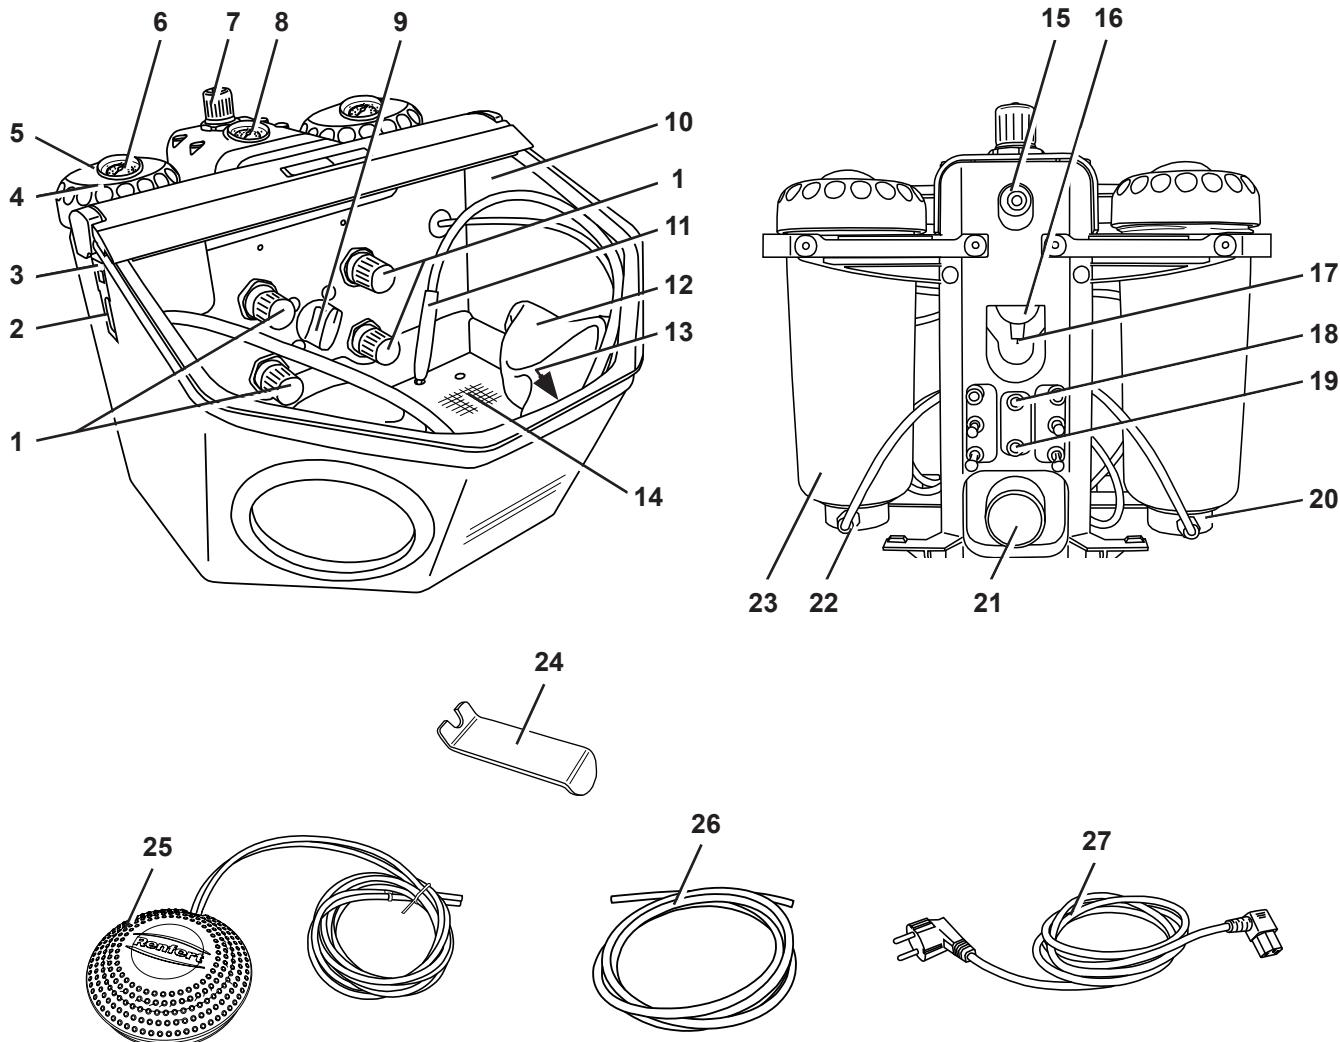

Fig. 1
- ⇒ Push the compressed air tube (26) onto the tube connection point (15) as far as it will go. In doing so there will be a slight resistance to overcome.
- ⇒ Check whether the pressure is at the required level (see tech. data). Display will be shown on the manometer (8, Fig. 1).
**Never press the pressure regulator (7) on the maintenance unit. This has been set and fixed to max. 6 bar in order to guarantee the best possible function of the pinch valves.**